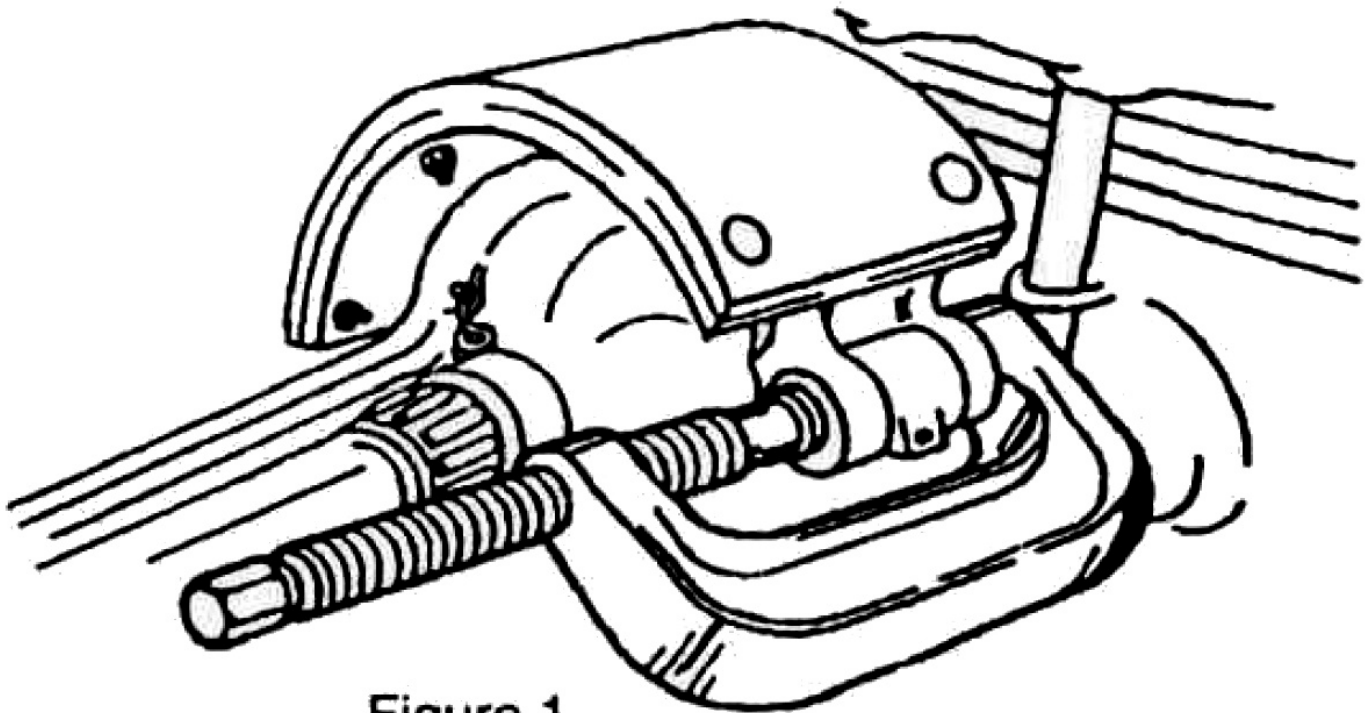

Figure 1
2. Place the C-frame press over the brake spider as shown in Figure 1.